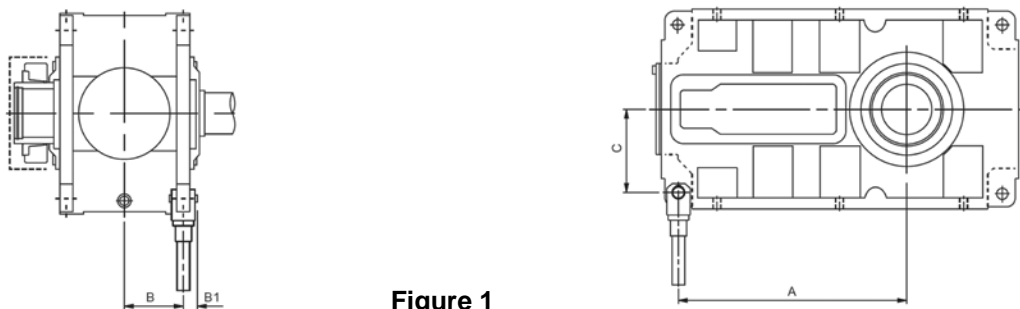

Figure 1
5.6.1.4. Fit torque arm to the side of the unit adjacent to the driven machine where possible, as shown in figure 1 & 2 (page 7).
Note: When the hollow output shaft is to operate in a vertical position it is essential that the shaft of the driven machine is provided with a shoulder. When the thrust load is not taken by the shoulder on the driven shaft, a thrust plate, as shown in Figure 1, must be fitted.